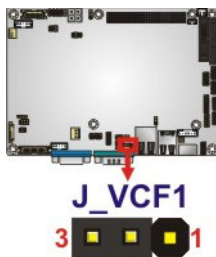

Figure 4-9: CompactFlash® Voltage Selection Jumper Location
- Jumper Location:** See Figure 4-9